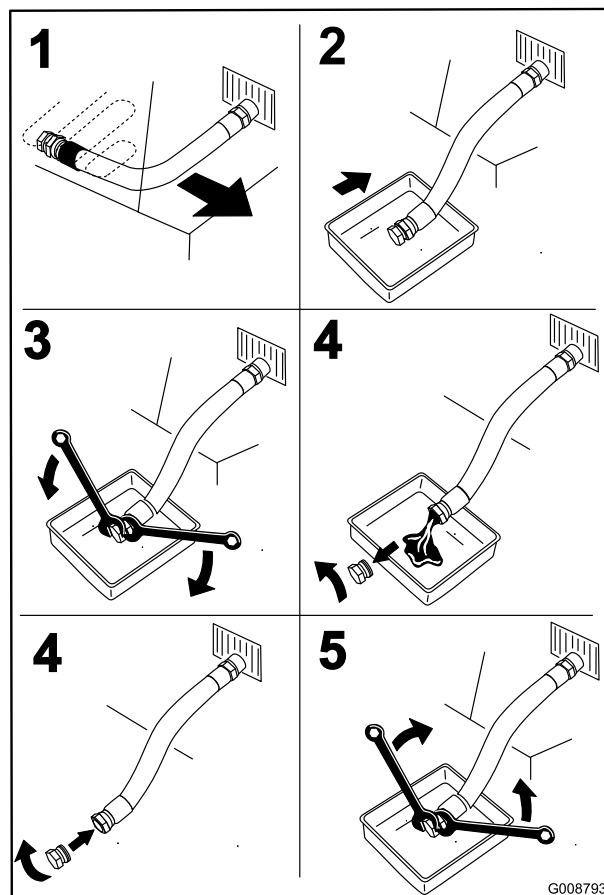

Figure 48
4. Drain the engine oil (Figure 48).